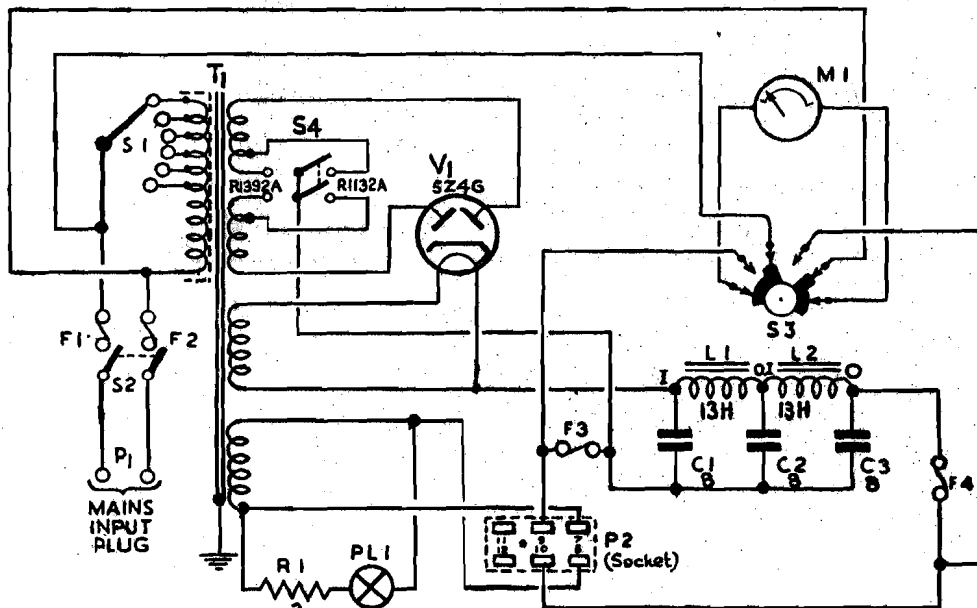

Fig. 2. Power unit Type 234A, circuit
The circuit diagram of the power unit is given in fig. 2 and it will be seen that it is basically a conventional full-wave rectifier circuit with a condenser-input smoothing filter. The 230 volts 50 c/s input is applied to the primary of the mains transformer T1 via the mains on-off switch S2, double-pole
4. The HT winding of T1 is provided with a tapping switch S4. In the position shown in fig. 2 only a part of the secondary turns are in use and the input to the rectifier is reduced. When S4 is set to the left-hand position the secondary input voltage to the rectifier is increased, due to the increased number of turns, and, consequently the HT output from V1 is correspondingly increased. The HT negative line from the centre-tap of this winding, which is not earthed, is connected to the smoothing network and also to pin 9 on socket P2 via the fuse F3.